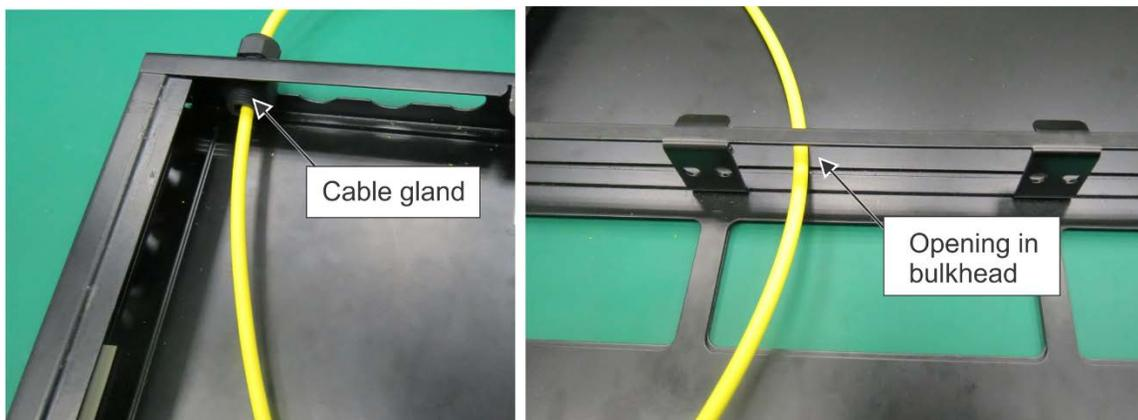

Figure 1. Install Incoming Fiber Cable
1. Dress incoming cable into the shelf and pull through both the cable gland and bulkhead opening into which the splicing cassette will be installed. (Figure 1).